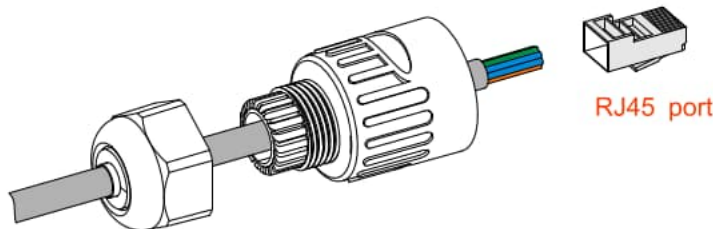

Figure3-28 Crimp the wires of RJ45 port
- Step 1 Strip the insulation layer of communication wire, unscrew the lock nut of waterproof RJ45 port (as shown in Figure3-28) and then lead the communication wire go through the RJ45 port and crimp it to the RJ45 plug..